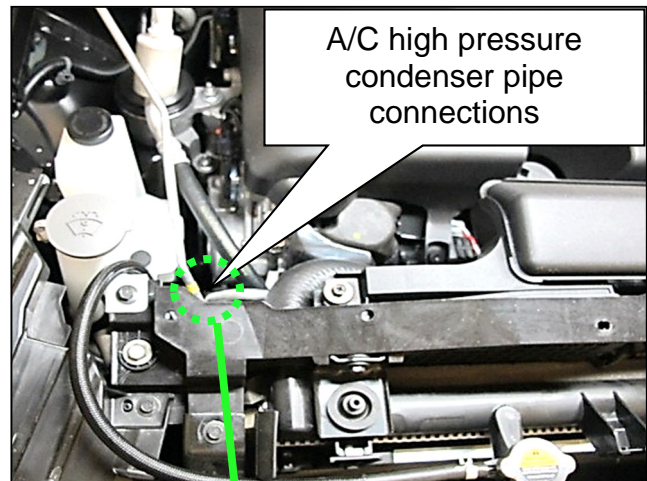
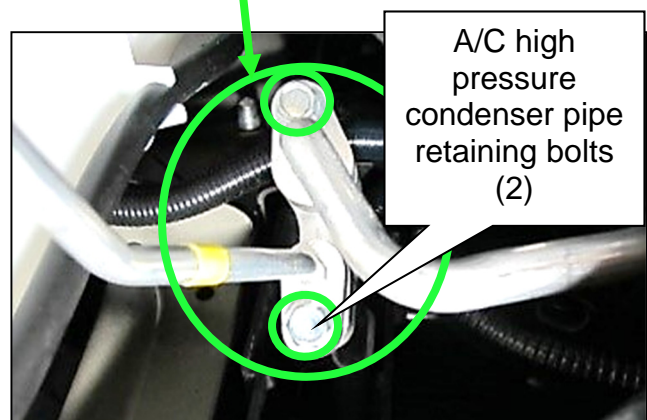

Figure 10
Figure 11
9. Locate the A/C high pressure condenser pipe connections in the engine compartment, where shown in Figure 10 and Figure 11.
10. Remove the two (2) 12 mm A/C high pressure condenser pipe retaining bolts in the engine compartment, where shown in Figure 11.